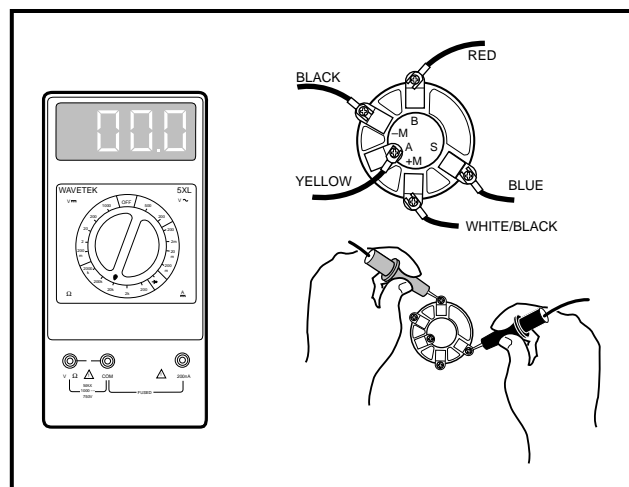

Figure 11-28 Key Switch Test – Starter Circuit
6. Insert the key and hold the key in the START position. The reading should be continuity. If the reading is incorrect, replace the key switch (**Figure 11-28, Page 11-25**). With the red (+) probe of the multimeter on the (B) terminal and the black (-) probe on the (A) terminal of the key switch, the reading should be continuity. If either reading is incorrect, replace the key switch. **See Key Switch Removal, Section 12, Page 12-15.**